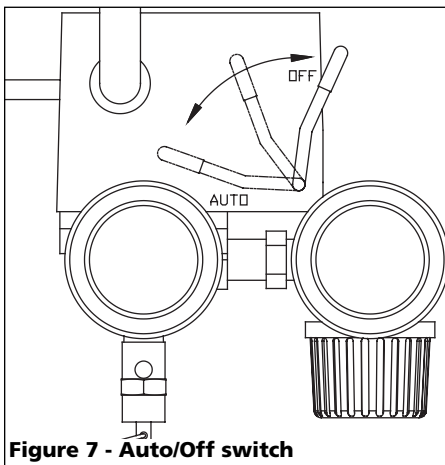

Figure 7 - Auto/Off switch
• **Pressure Switch - Auto/Off Switch** (Figure 7) - In the **AUTO** position, the compressor shuts off automatically when tank pressure reaches the maximum preset pressure. In the **OFF** position, the compressor will not operate. This switch should be in the **OFF** position when connecting or disconnecting the power cord from the electrical outlet or when changing air tools.